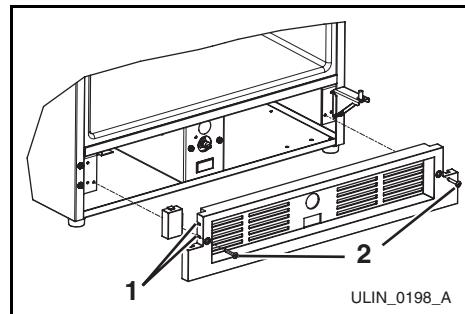

Figure 9
6. Make sure grille cap is behind grille in slots provided in grille (Figure 9, 1) before attaching grille to unit, and secure but do not overtighten both grille screws (Figure 9, 2).